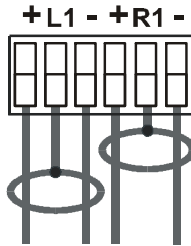

Figure 3: Connecting the Balanced Stereo Audio Input/Output
- A balanced input/output connection (see Figure 3)
Figure 3 illustrates how to wire a balanced input/output connection (for example, audio INPUT 1 or AUDIO OUTPUT 1):